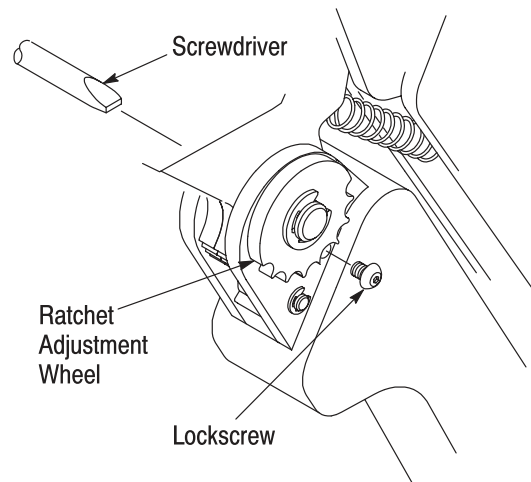

Figure 5
**5.1. Ratchet Adjustment** (Figure 5)